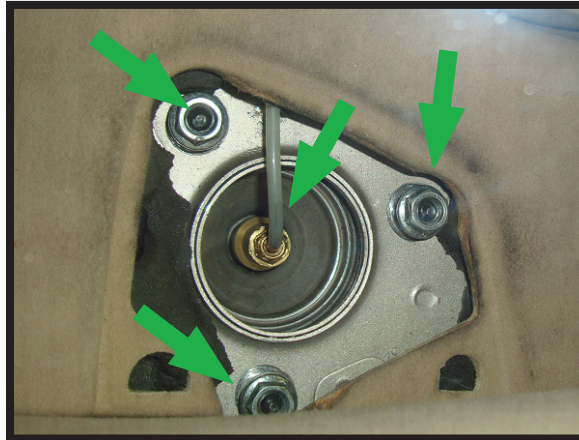

FIGURE 13
3. DISCONNECT THE AIRLINE AND REMOVE THE THREE (3) MOUNTING NUTS FROM THE TOP OF THE AIR STRUT. (FIGURE 13)